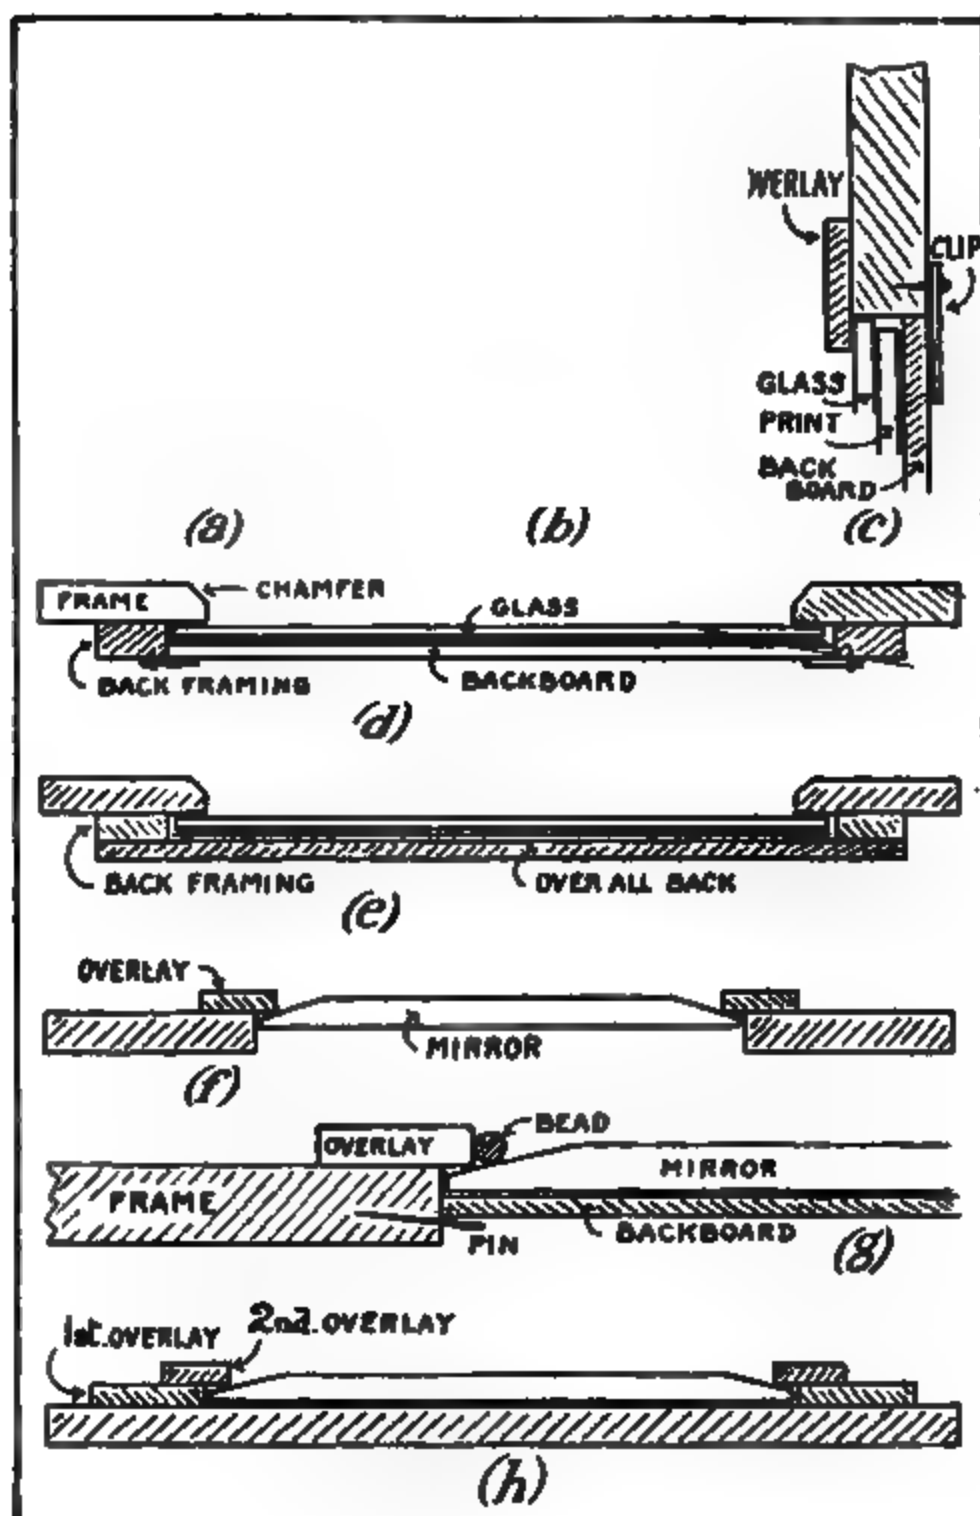

Fig. 143.—(a-e) Methods of framing photographs. (f-h) Framing mirrors.
*Framing Photographs.*—The favourite method of framing a photograph is as Fig. 143, where *a* represents the front view, *b* the back, and *c* an enlarged section. Frames are usually provided with overlay borders, the inner edges of these overlapping the picture opening in the back by about  $\frac{1}{8}$  in. at each side. In this way a rebate for print, glass, and back board is formed. The back board (a piece of  $\frac{1}{8}$ - or  $\frac{1}{4}$ -in. wood) is shown at *b*, held by four small metal photograph clips. The section *c* clearly explains the fitting.
When there is no overlay, a back framing has to be fixed behind the frame, as Fig. 143, *d*. This consists of four narrow strips, mitred at the corners and glued on. To provide a rebate, they are set
As an alternative to method *d*, an over-all back board is sometimes fixed as Fig. 143, *e*, the sectional sketch being self-explanatory. If the top framing strip be omitted, the glass and photograph may be slipped in and out from the top.
*Framing Mirrors.*—Small bevelled mirrors, which are often introduced in fretwork designs, may be fitted in the same way as photographs. As they are not intended to be removable, however, a back board with clips need not be used. Mirrors invariably look better with an overlay, as section Fig. 143, *f*. Sometimes a little turned bead or pearl moulding is added, as in the enlarged section *g*. This section *g* also shows an ordinary method of fixing: a back board is added, as in picture framing, and is held with a few pins or nails passed into the edge. If, however, the mirror be fitted to a door, this method is unfinished, and an over-all back board will be required.
On some designs a mirror is allowed to rest on the solid background. This has the advantage of making it stand well forward, but two overlays (as Fig. 143, *h*) are then required to hold it. The first overlay (with an inner opening to fit the